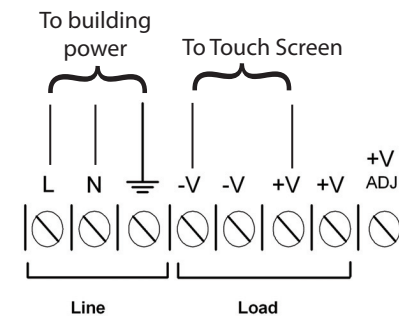

Figure 7: Terminal block wiring
2. Connect the building power supply wires to the MD-990 line terminal screws as shown in Figure 7.